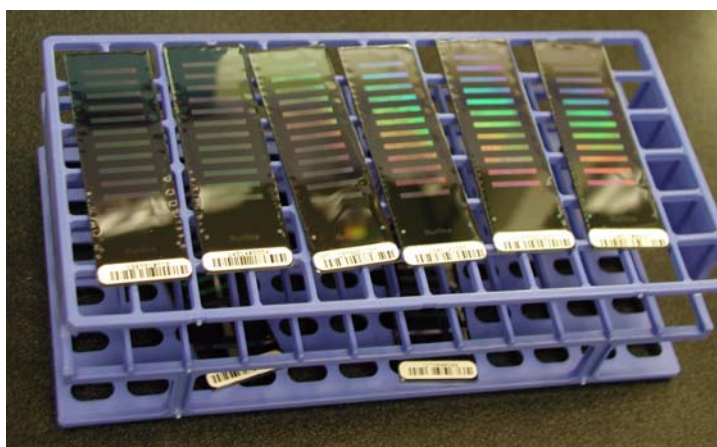

Figure 66 BeadChips on Tube Rack
- b. Place each BeadChip on a tube rack with the barcode facing up and towards you (Figure 66).
20. Remove the remaining BeadChips to the tube rack as shown in (Figure 66), with six BeadChips on top of the rack and two BeadChips on the bottom. The barcode ends should be towards you, and the BeadChips should be completely horizontal.